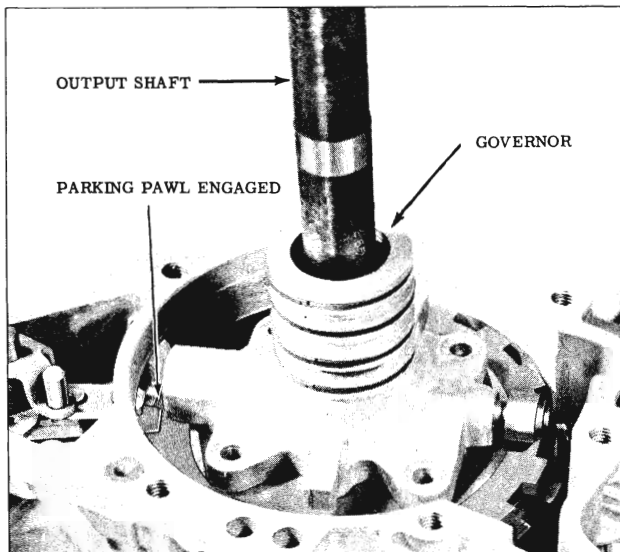

Fig. 3-106 Installing Governor
4. Engage parking pawl. (Fig. 3-106)